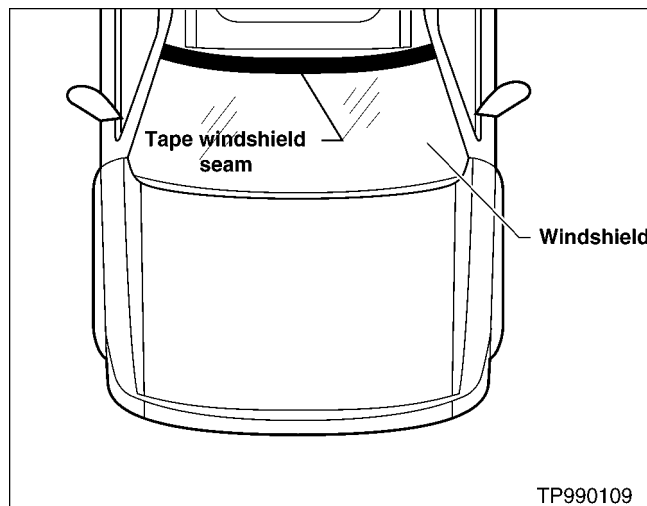

Figure 1. Windshield
2. Apply high quality masking tape to cover the seam between the upper edge of the windshield and the roof (across the upper molding) along the length of the windshield (see Figure 1).